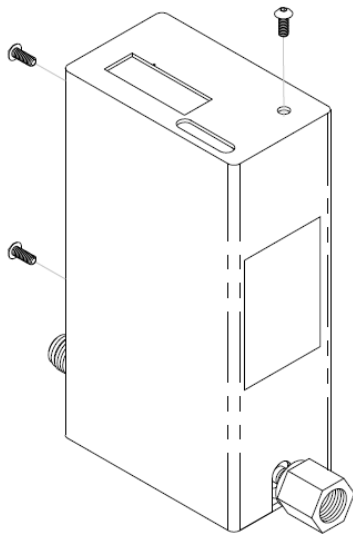
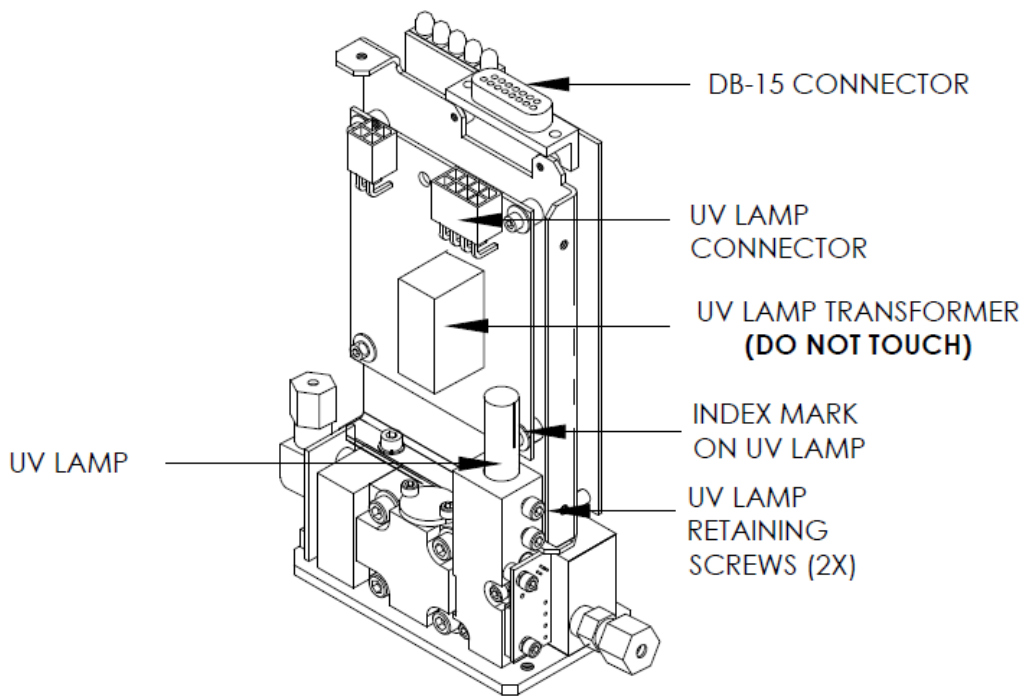
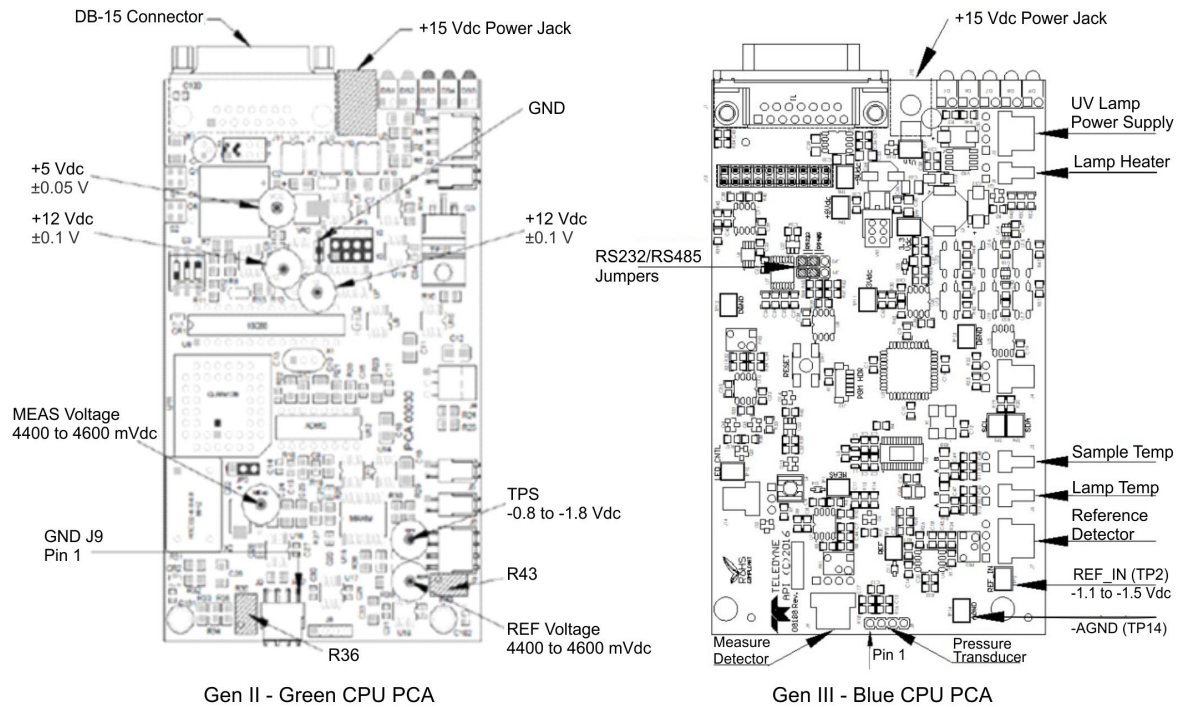

Figure 6-1: Cover Assembly Screws
Figure 6-2: UV Lamp Orientation
Figure 6-3: Voltage Adjustment Locations
The only user-serviceable part in the Model 452 is the lamp, which either can be adjusted or replaced and adjusted. For these procedures, refer to Figure 6-1, Figure 6-2, and Figure 6-3, and adhere to all Safety messages herein. For all other service, contact TAPI Technical Support.
4. Remove the three screws shown in Figure 6-1.
6. Squeeze the release tab of the UV lamp connector (Figure 6-2) and pull up the connector to disconnect lamp.
7. Loosen two UV Lamp Retaining screws (Figure 6-2) approximately one turn counter-clockwise or until the lamp moves freely.
9. Install the new UV lamp, ensuring that the UV lamp is all the way down in the UV lamp block and the index mark or inverted “V” notch is aligned as shown in Figure 6-2.
13. Measure and adjust the voltage according to either the Gen II or Gen III instructions (according to the applicable CPU PCA, referring to Figure 6-3) that follow:
1. Ensuring cables are tucked in, carefully slide cover onto Instrument as shown in Figure 6-1.